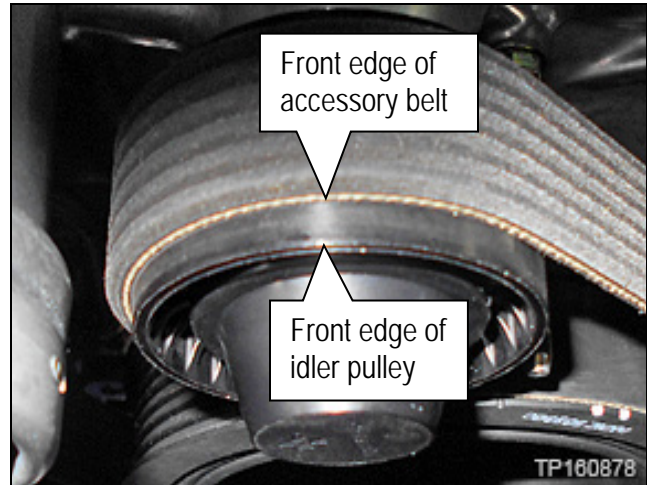
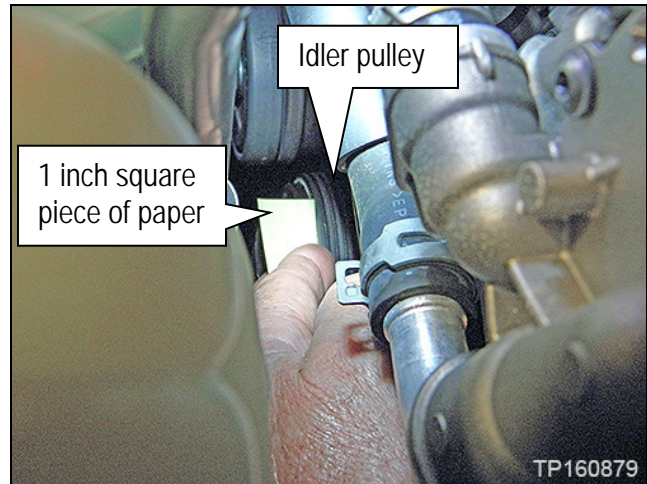

Figure 3
Figure 4
2. Measure the gap from the front edge of the belt to the front edge of the idler pulley shown in Figure 3 as follows:
b. Align the paper to the front edge of belt (Figure 3 and Figure 4).